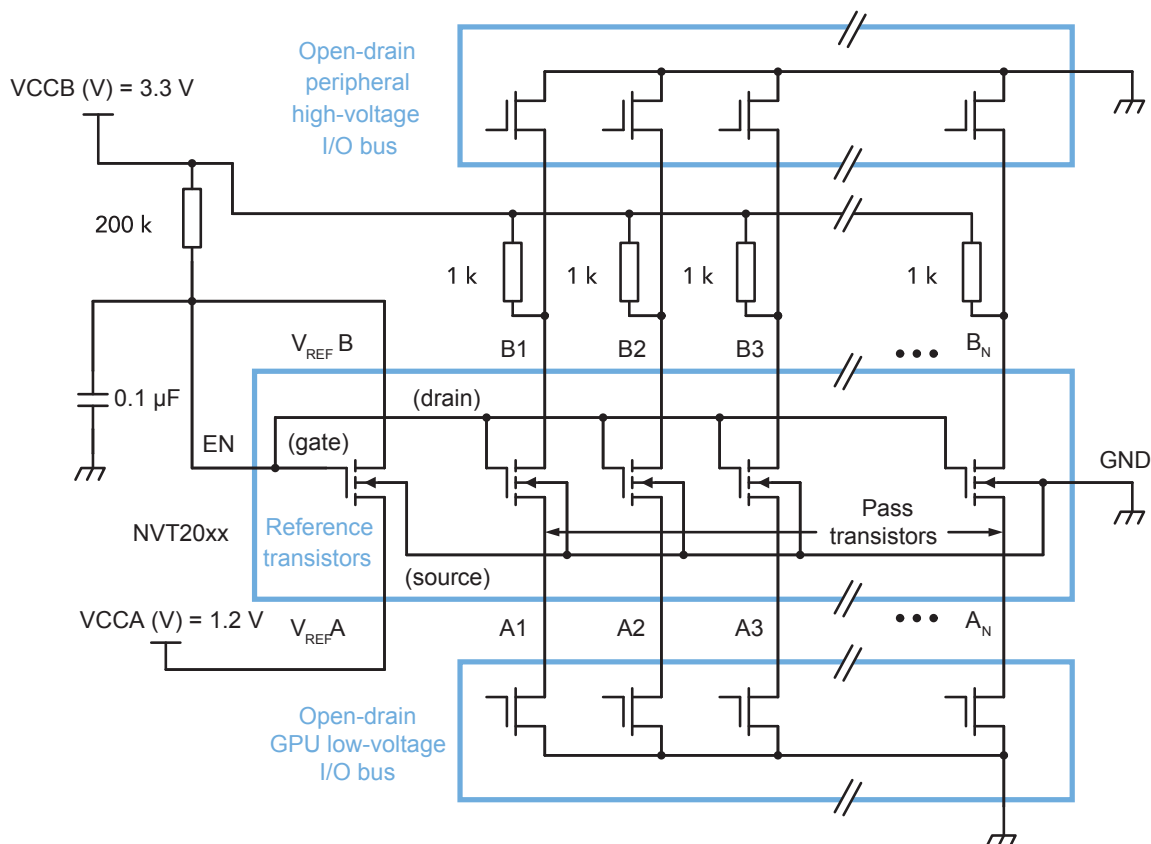

Figure 16: Typical NVT20xx device schematic
NVT200x level shifters perform bidirectional translation using an array of matching N-channel pass transistors with their gates tied together internally at the enable (EN) pin (**Figure 16**).